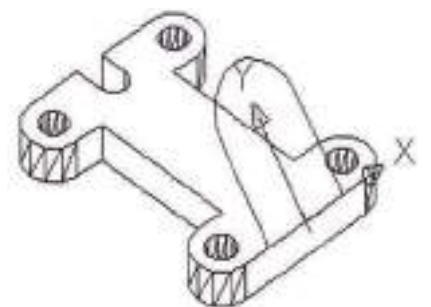

Fig.11
9. Change the view point to NE Isometric: (Figure 11)